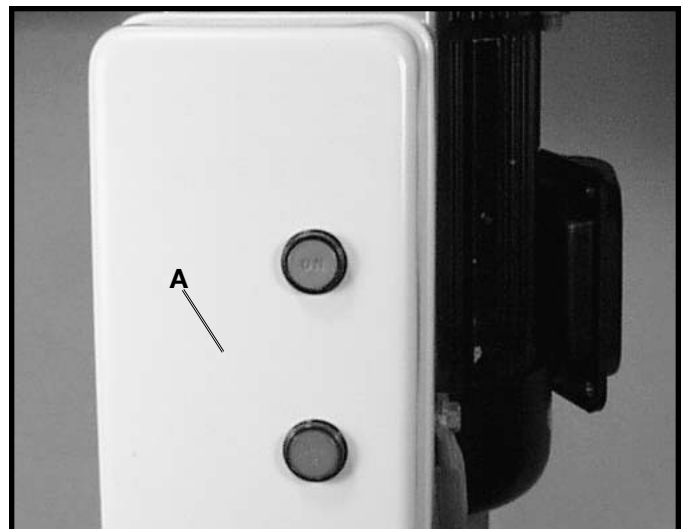

Fig. 30
1. Remove switch controller cover (A) Fig. 30.